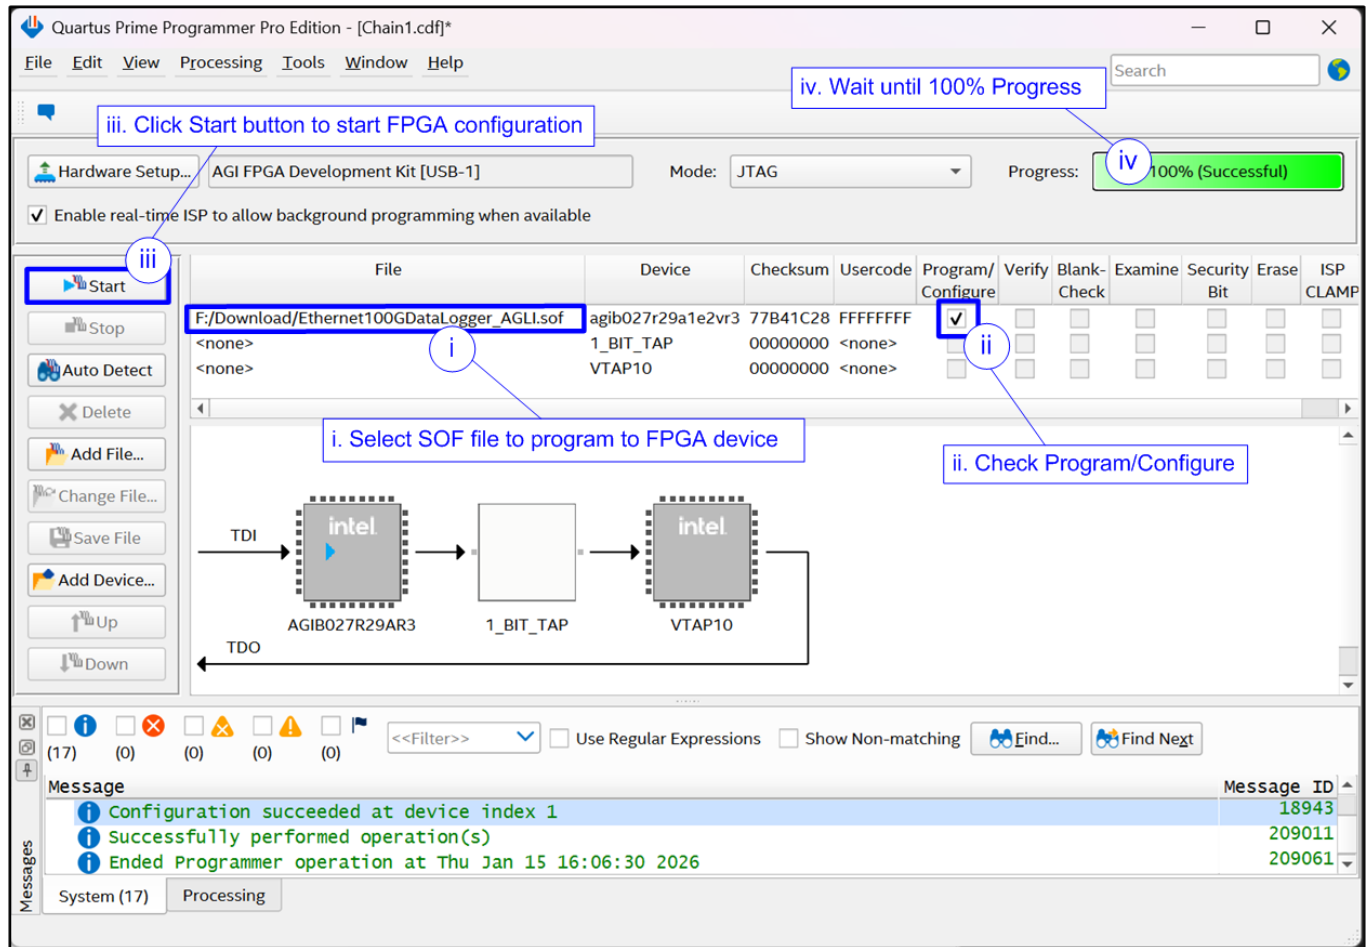

Figure 18 Programmed by Quartus Prime Programmer
- 1) Use Quartus Programmer to download the SOF file, as shown in Figure 18.